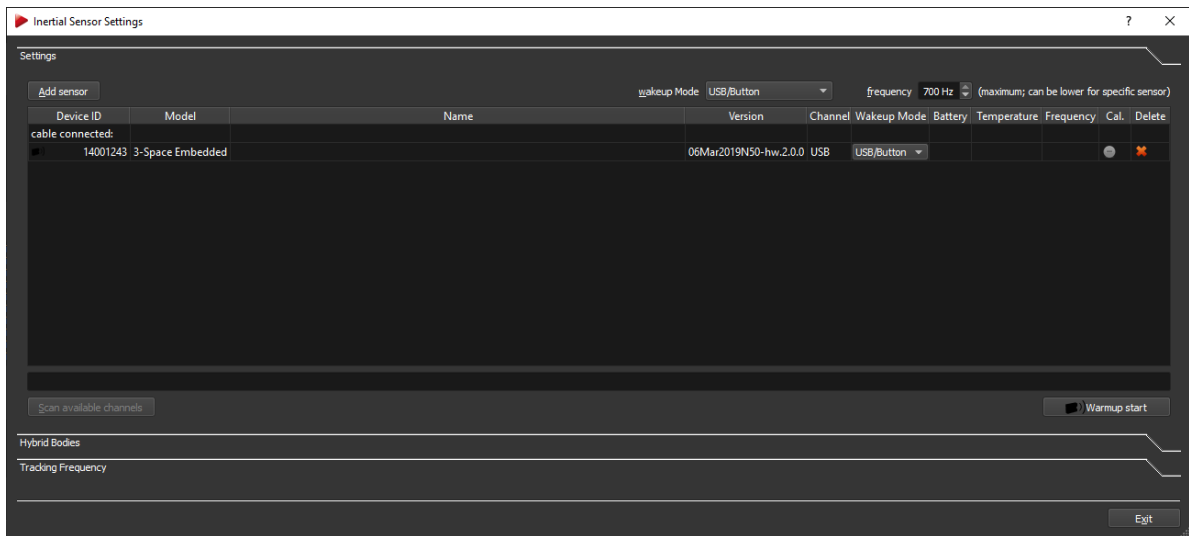

Figure 8.13: Inertial Sensor Settings - Wired inertial sensor added
The dialog *Inertial Sensor Settings* (see figure 8.13 on page 90) now shows all available sensors with the following properties:
**Warm-up of inertial sensors** To start up the procedure simply press the button *Warmup start* in the dialog *Inertial Sensor Settings* (see figure 8.13 on page 90) or in the *toolbar* of *DTRACK3* frontend (refer to chapter 6.2 on page 43) and leave the process running for about 5-10 minutes. The progress bar will stop at 100% (progress bar turns green) even though the warming up of the sensors continues. This shall guarantee that the sensors work continuously and do not cool down until the calibration takes place.